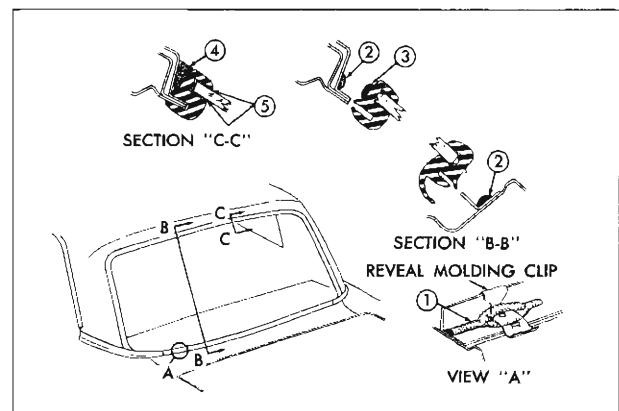

Fig. 5-3 Back Window Sealing
2. Check installation of reveal molding clips at pinchweld and retaining flanges and replace clips, where necessary. If replacing clips, apply medium-bodied sealer to opening rabbet, prior to installing clips (see "1" in View "A" Fig. 5-3).
3. Apply a continuous ribbon of medium-bodied sealer (approximately $\frac{1}{2}$ inch wide by $\frac{1}{4}$ inch thick) on wall of rabbet, completely around opening (see "2" in Section "B-B" Fig. 5-3).
5. Apply a continuous ribbon of medium-bodied sealer (approximately $\frac{1}{2}$ inch wide by $\frac{1}{4}$ inch thick) to base of rubber channel across top and down sides (see "3" in Section "B-B" Fig. 5-3).
8. Using a pressure-type applicator, apply sufficient medium-bodied sealer to completely fill any openings between rubber channel and body completely around rubber channel (see "4" in Section "C-C" Fig. 5-3).
9. Using a pressure-type applicator (Pistol-type oiler) apply weatherstrip adhesive (black) between rubber channel and glass on inside and outside of glass around entire perimeter of glass (see "5" in Section "C-C" Fig. 5-3). Application of adhesive should be continuous with no skips.